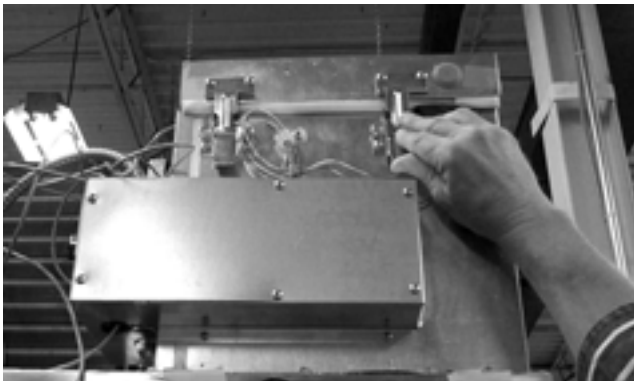

Figure 4-22
2. Remove lid of evaporator housing, located on top of unit (Figure 4-22).